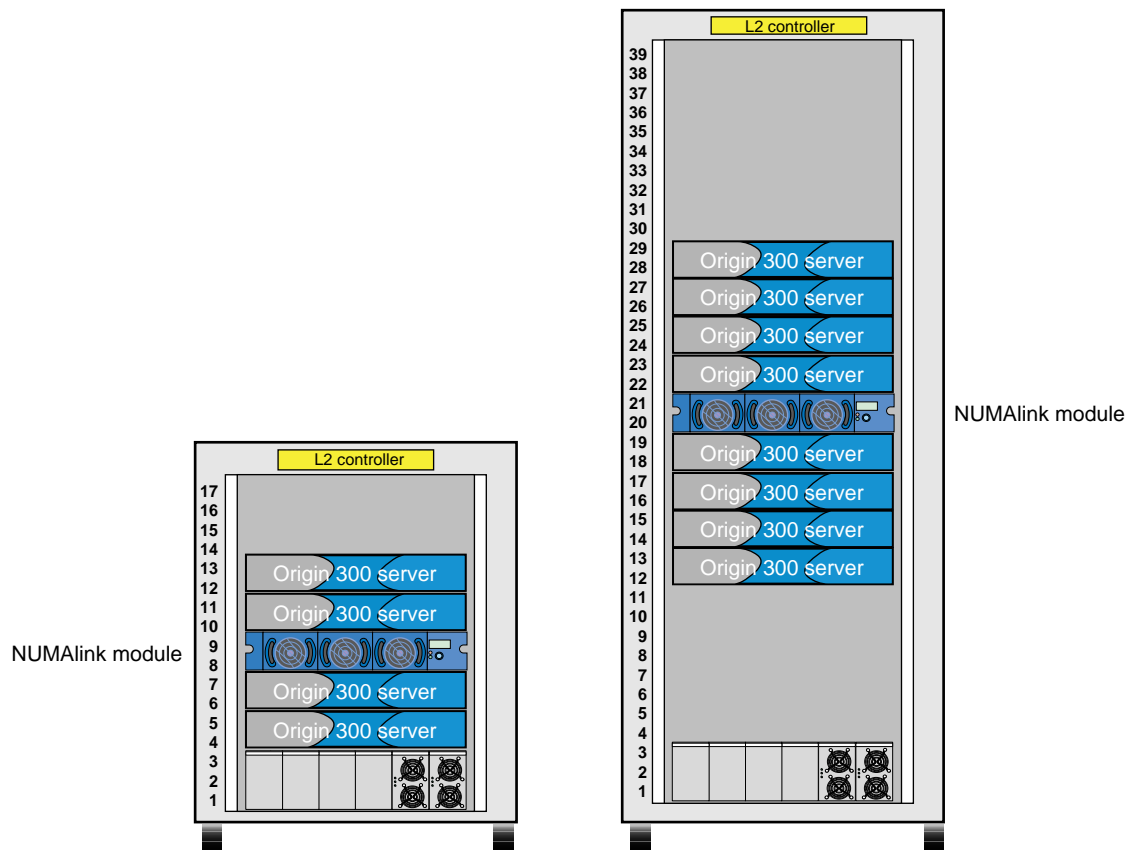

Figure 1-4 Unit Numbering within Rack
The SGI Origin 300 system with NUMAlink module supports two rack types: a short rack and a tall rack. The racks are measured in standard units (U); one unit is equal to 1.75 in. (4.445 cm). The short rack is a 17U rack and the tall rack is a 39U rack (refer to Figure 1-4).
The components within the rack are identified by the lowest unit number that they occupy. For example, the NUMAlink modules shown in Figure 1-4 are identified as U8 in the short rack and U20 in the tall rack.